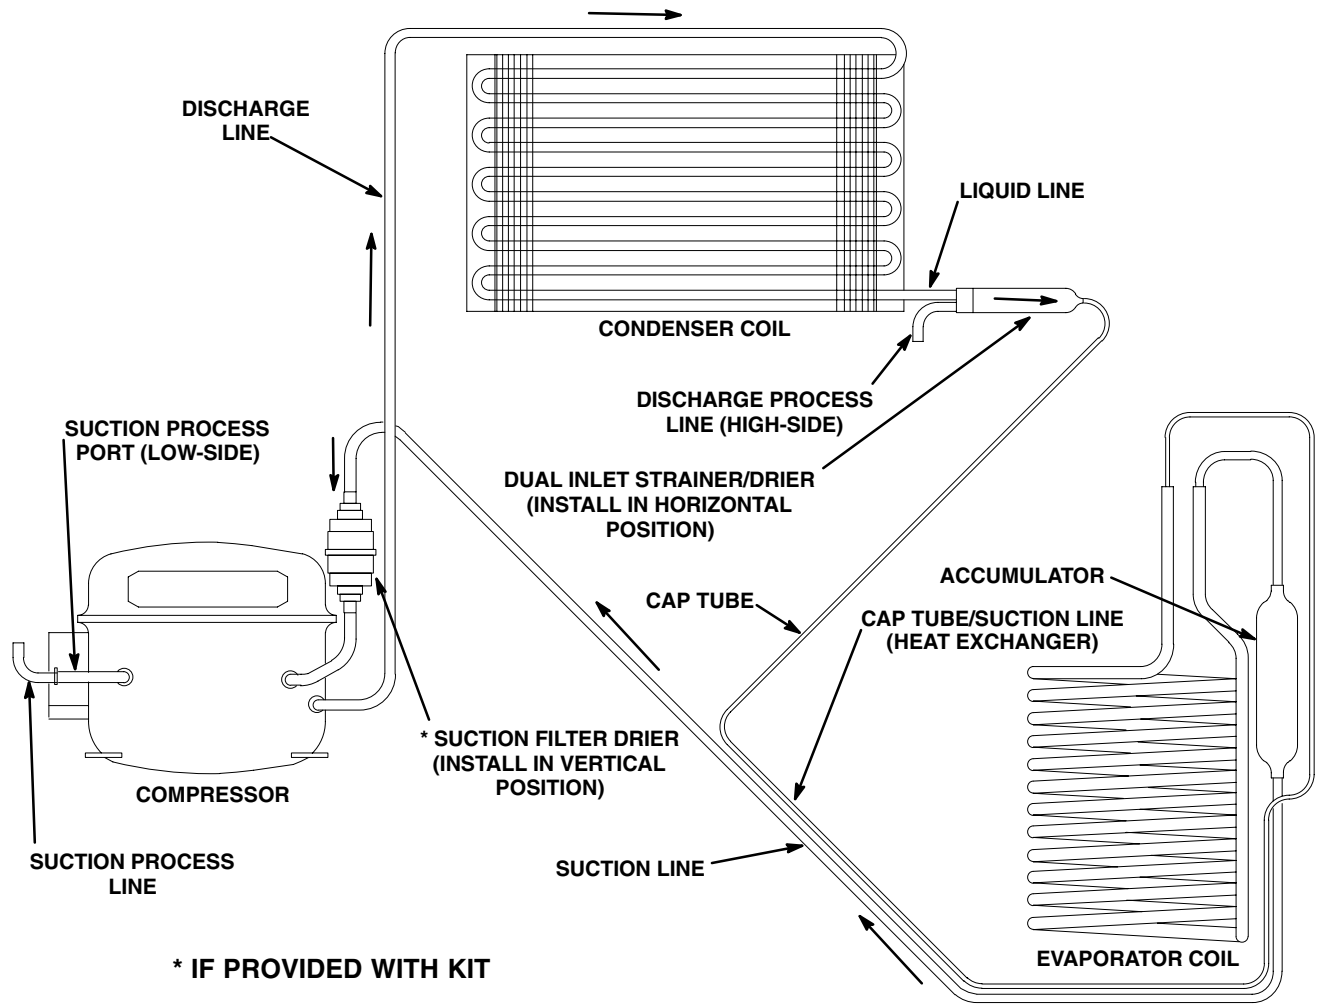

FIGURE 1. REFRIGERATION CIRCUIT AND COMPONENTS
4. At the compressor, install a line-tapping valve in the suction process line (see Figure 1).
5. At the dual inlet drier, install a second line-tapping valve on the discharge process line (see Figure 1).
(see Figure 1)
**Note: The suction filter/drier (if provided in the kit) *must* be installed in a vertical position in the suction line close to the compressor as shown in Figure 1.**